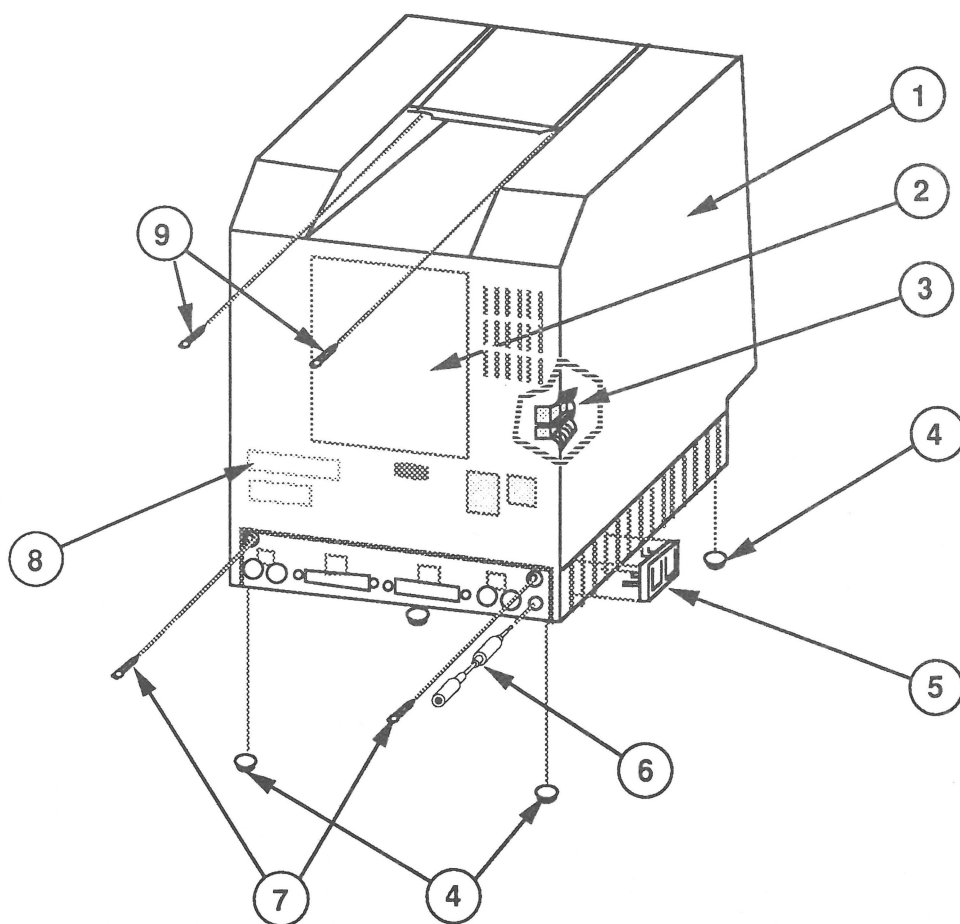

FIGURE 3
□ EXTERNAL REAR HOUSING (Figure 3)